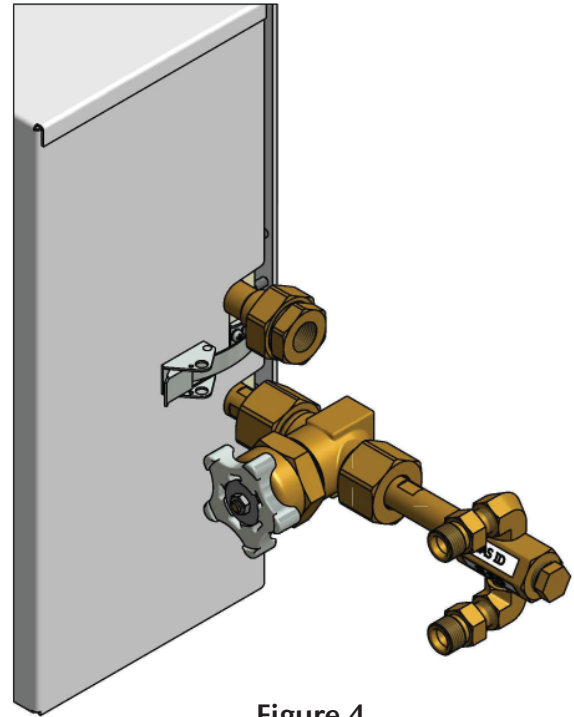

Figure 4
8. For all manifolds, additional shipping cartons contain extension headers and master valves. Attach master valve and appropriate header extension to manifold control panel. Position cylinder inlet connections of each header extension so they are pointing out (away from the wall) and tighten header extension (Figure 4).
10. Additional cartons containing master valves and header assemblies will be shipped loose. Attach the master valves and appropriate header extensions to the manifold control panel. Position cylinder inlet connections of each header extension so they are pointing out (away from the wall) and tighten header extension (Figure 4).